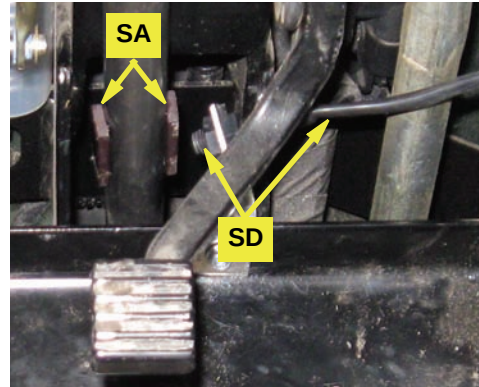

Figure 2: Attached magnets and installed sensor.
- a. Mix epoxy **SB** as directed on the package then attach both magnets **SA** to the cleaned steering shaft 180° apart. Align the center of each magnet with the center of the sensor hole in the sensor bracket (Figure 2).
- b. Install the steering sensor **SD** in its bracket. Set the sensor tip 1/8" to 1/4" from the magnets (Figure 2). (You will connect **SD** to the ECU in the next section).